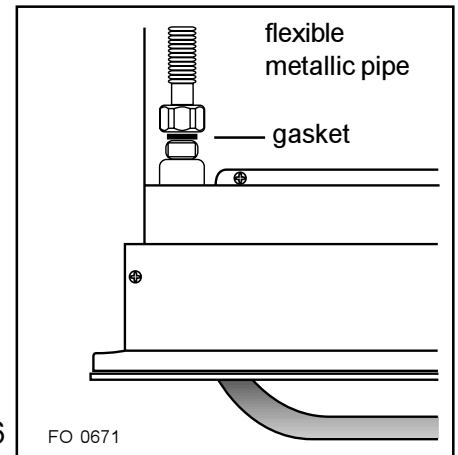

Fig.6
- 1) Fig. 6 — flexible metallic pipes (with maximum length up to 2 metres only) — screw the feed pipe to the 1/2" connection ramp, inserting the gasket provided between the pipe and the ramp;